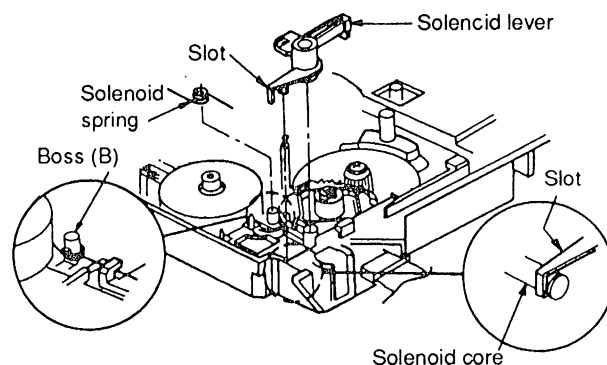

Fig.3
5. Install the solenoid lever. (See Fig.3)
6. Install the solenoid spring to the boss (B). (See Fig.3.)